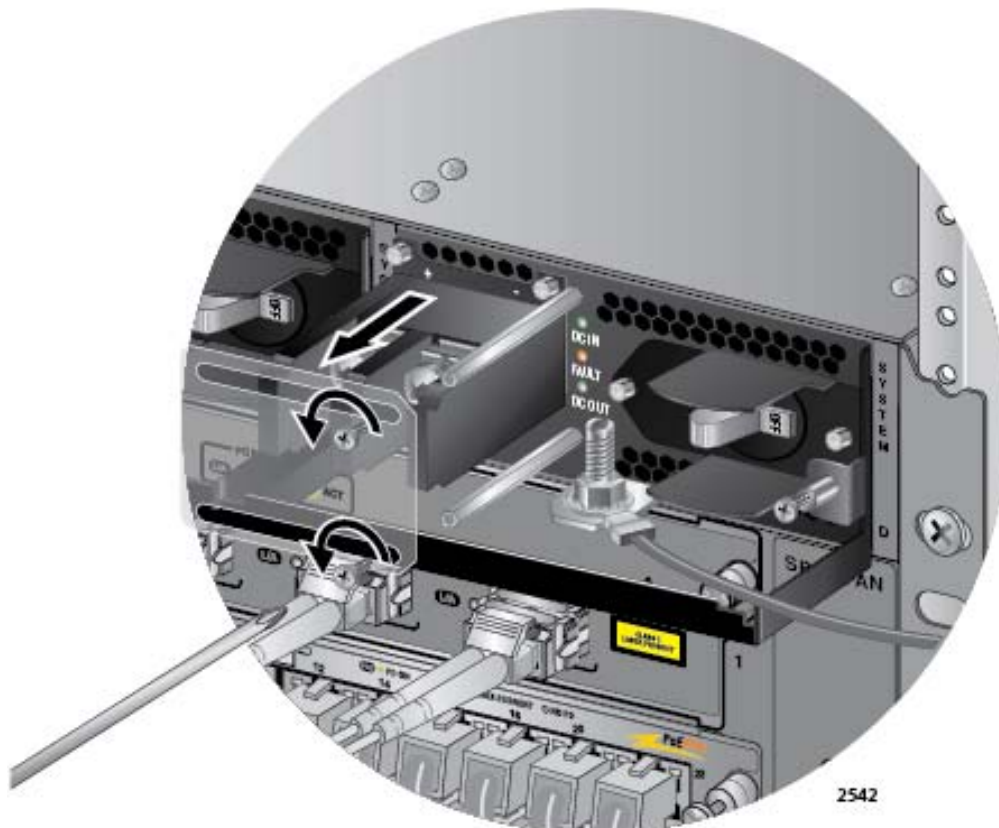

Figure 134. Removing the Plastic Cover
- Using a #1 Phillips-head screwdriver, remove the two screws that secure the plastic cover over the positive and negative terminals and remove the plastic cover from the power supply, as shown in Figure 134. You may need to lift the locking handle slightly to access the bottom screw.